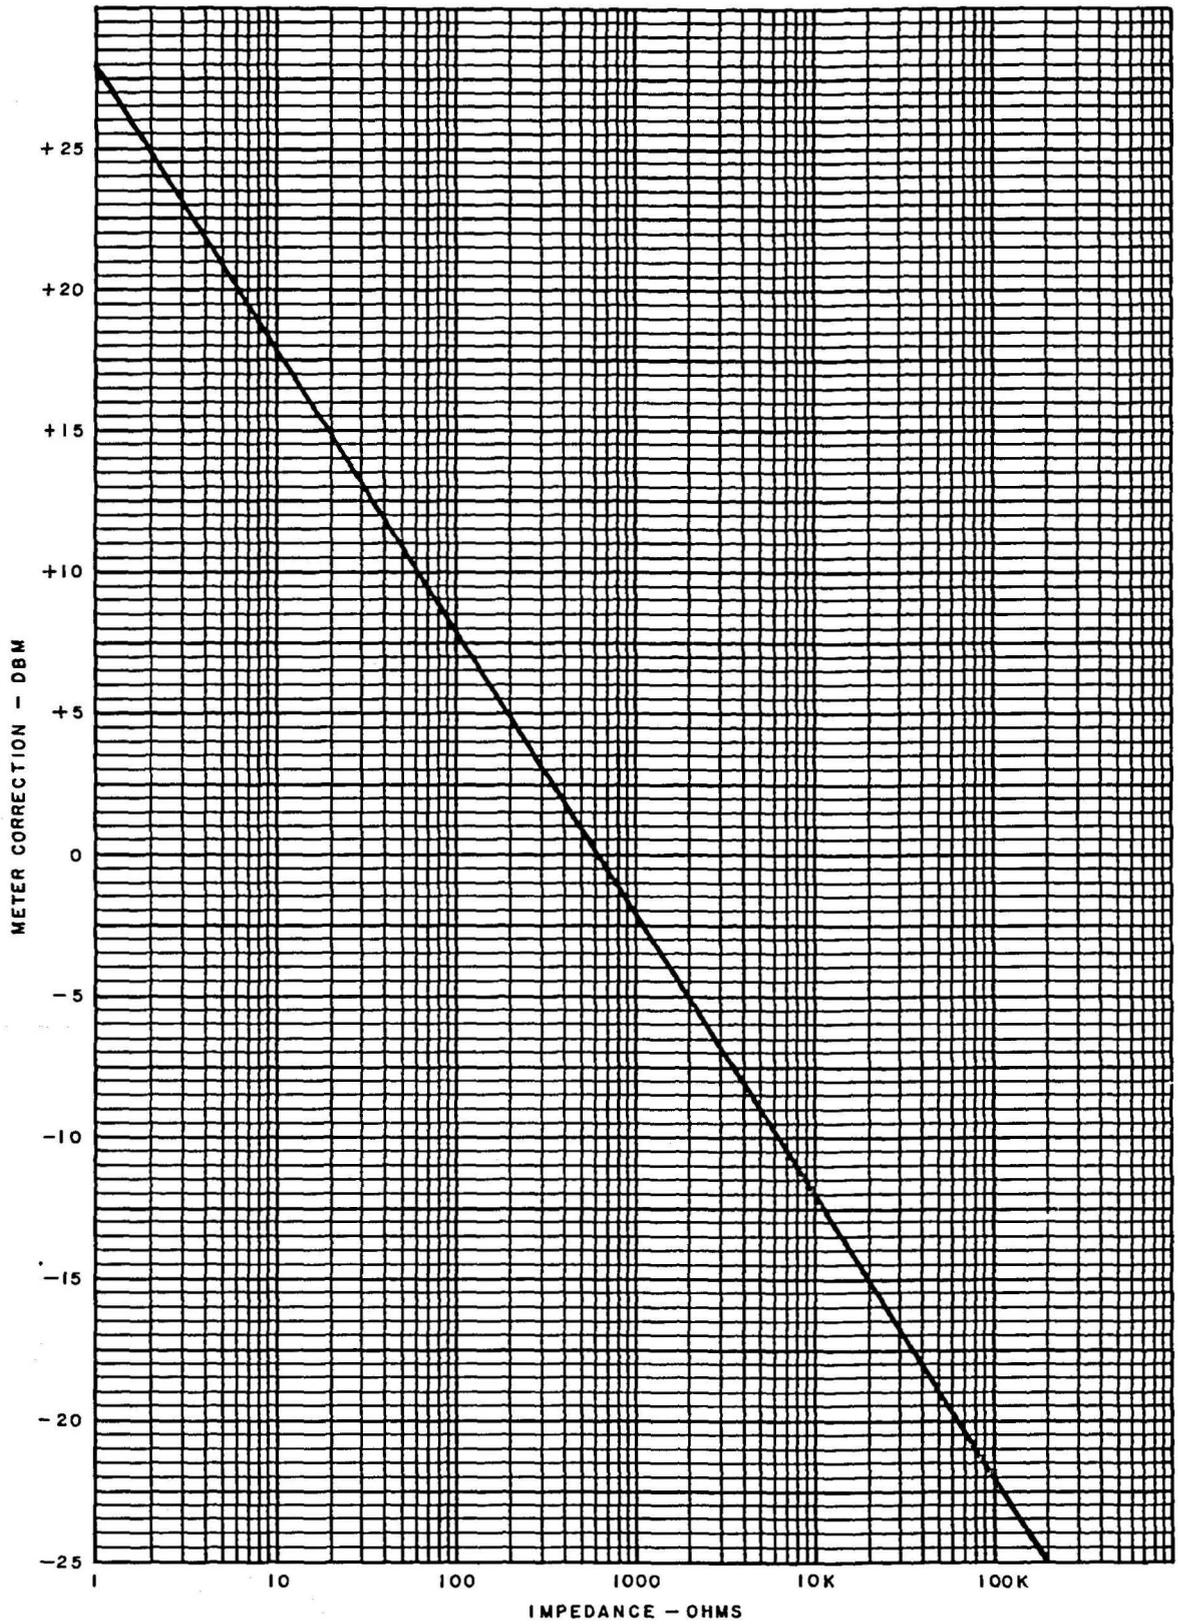

Fig. 4—Impedance Correction Graph
3.15 As the VTVM DECIBELS scale is calibrated to indicate dBm for measurements made across 600-ohm circuits, a correction factor must be used when measurements are made across circuit impedances other than 600 ohms if absolute dBm levels are desired. The correction factor is not necessary in measuring relative dB (not dBm) levels across the same impedance, but it is required for comparison of dB levels measured across different impedances. The impedance correction graph in Fig. 4 gives the correction factor for conversion of the meter reading to dBm when the impedance of the circuit under test is known. To use the graph, read the conversion factor corresponding to the test circuit impedance and add it to the meter reading determined in Part D. Observe the algebraic sign of the correction factor in making algebraic addition. For example, if the measurement is made across 90 ohms, and the indication on the DECIBELS scale is $+2$, and the RANGE switch is at the $+30$ DB position, the level in dBm is